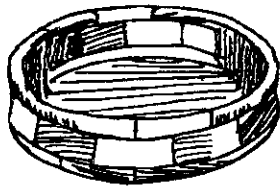

Figure 66
- The bowl illustrated in Figure 66 requires 12 segment pieces for the sides. Bowls can also be worked with 6 or 8 pieces.